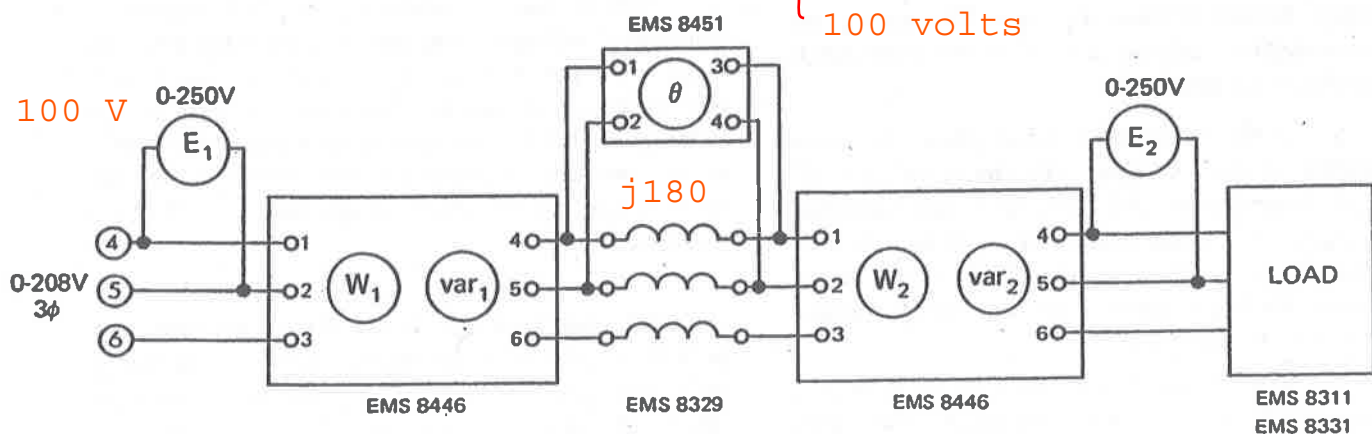

Fig. 5-1
□ 5-1) Set the impedance of the transmission line to ~~120~~ 180 ohms and connect voltmeters and watt-varmeters as shown in Fig. 5-1. The load will be modified during the course of the experiment. The circuit should be connected to the three-phase variable voltage supply.